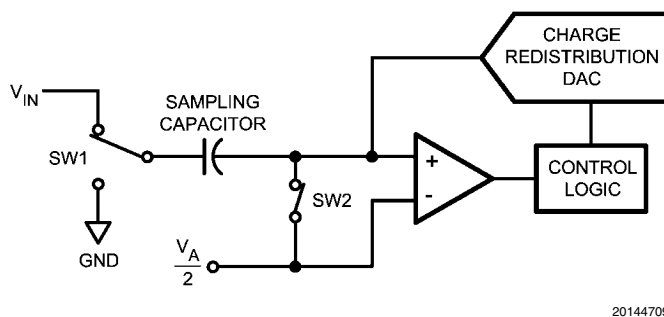
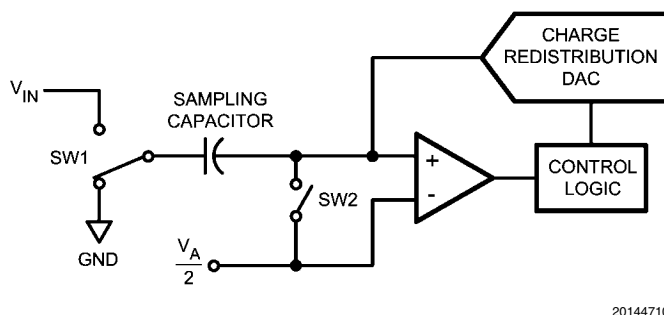

FIGURE 3. ADC101S051 in Track Mode
FIGURE 4. ADC101S051 in Hold Mode
The ADC101S051 is a successive-approximation analog-to-digital converter designed around a charge-redistribution digital-to-analog converter core. Simplified schematics of the ADC101S051 in both track and hold modes are shown in *Figure 3* and *Figure 4*, respectively. In *Figure 3*, the device is in track mode: switch SW1 connects the sampling capacitor to the input and SW2 balances the comparator inputs. The device is in this state until  $\overline{CS}$  is brought low, at which point the device moves to the hold mode.
*Figure 4* shows the device in hold mode: switch SW1 connects the sampling capacitor to ground, maintaining the sampled voltage, and switch SW2 unbalances the comparator. The control logic then instructs the charge-redistribution DAC to add or subtract fixed amounts of charge from the sampling capacitor until the comparator is balanced. When the comparator is balanced, the digital word supplied to the DAC is the digital representation of the analog input voltage. The device moves from hold mode to track mode on the 13th rising edge of SCLK.